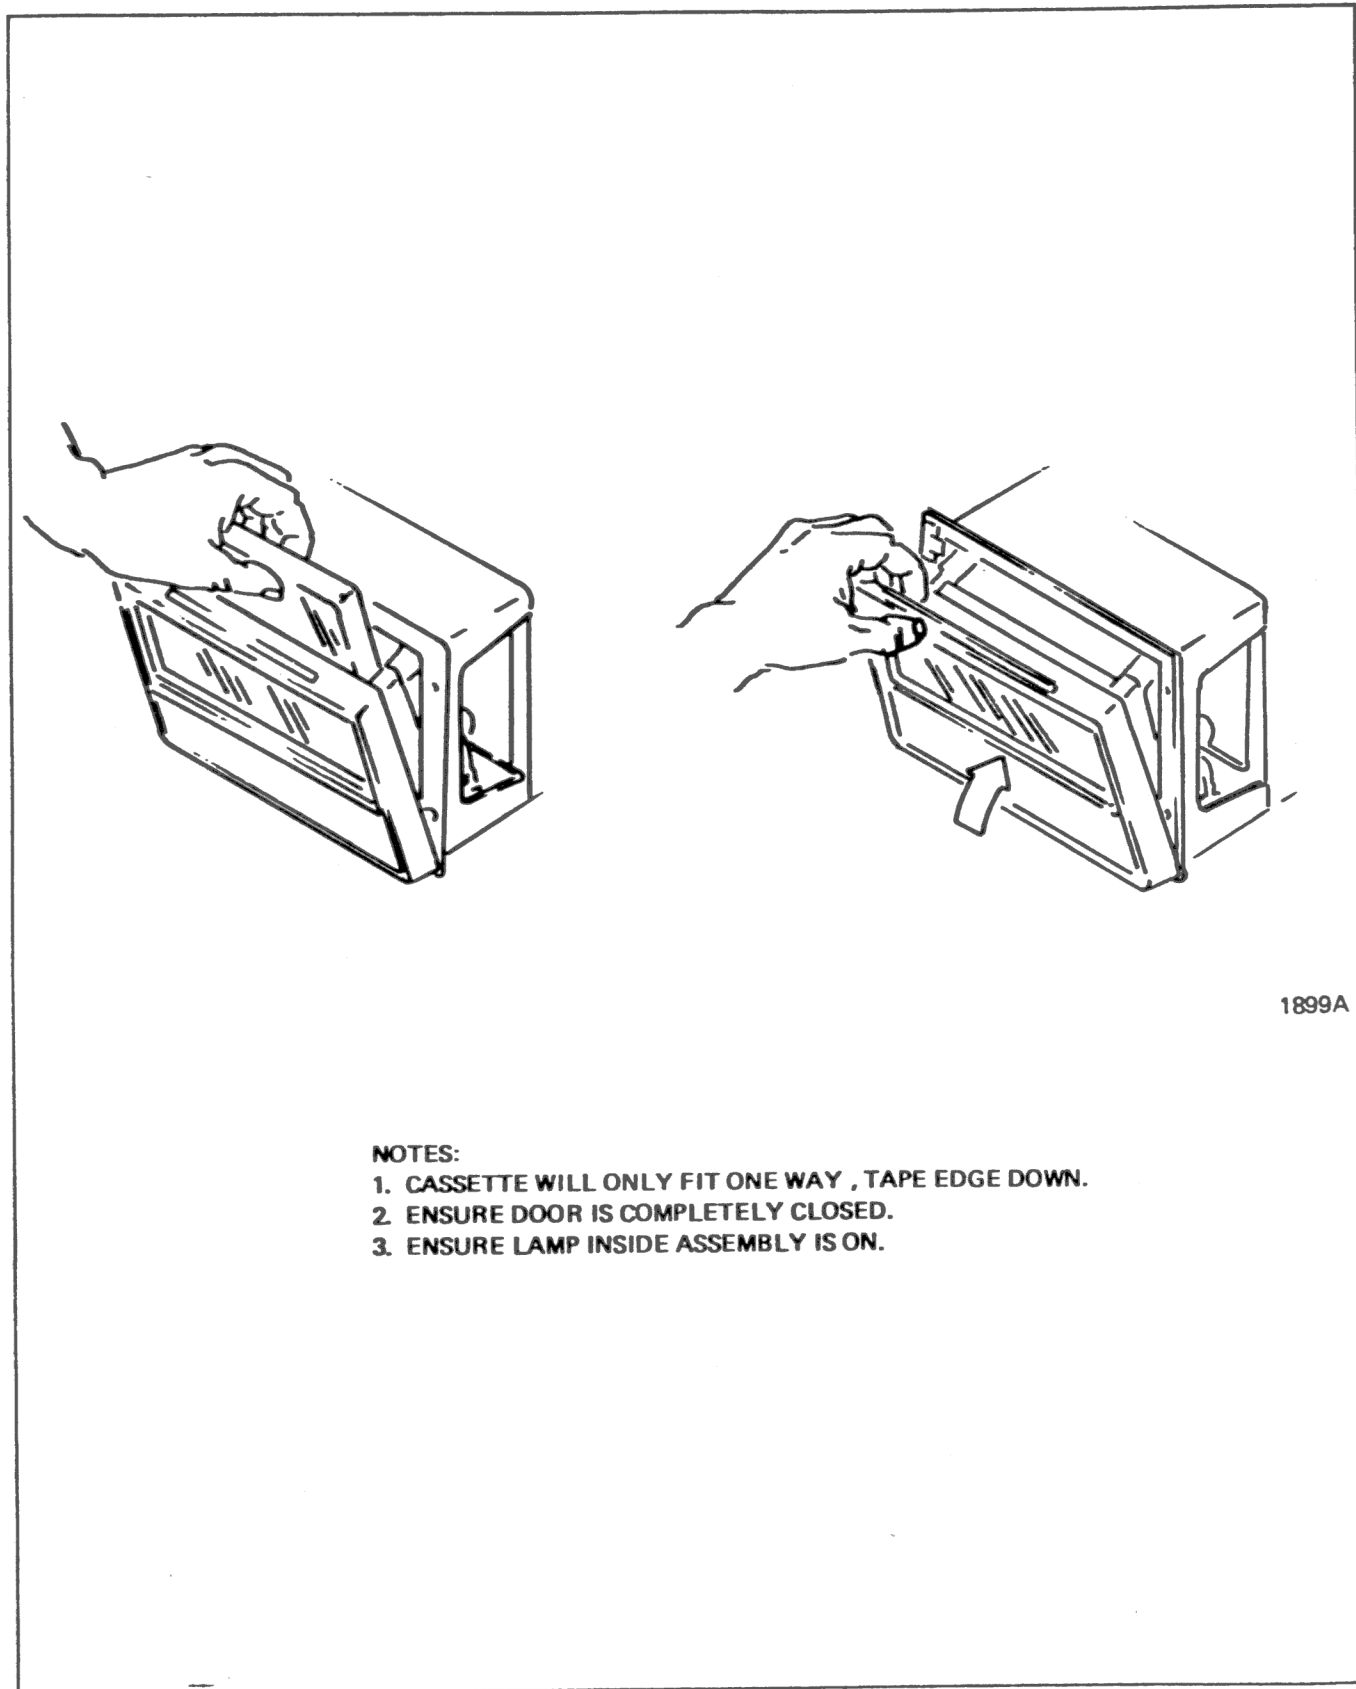

Figure 8. MTC Tape Loading
- (a) Open off-line system MTC door and remove test tape cartridge, if any (Figure 8).